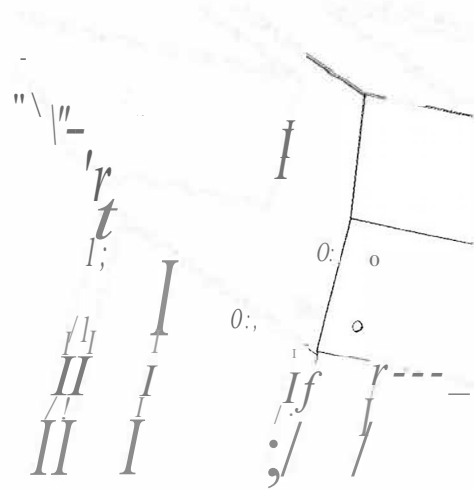

FIGURE 6
- 2- Using a 5/32" male hex driver, loosen, but do not remove, the four (4) leg mounting screws, from the top left-hand side of the cart chassis.
- 3- Carefully align the "keyholes" in the shelf, with and over the four (4) leg-mounting screws. Make sure the washers are not between the shelf and the cart chassis. Push the shelf down into position.
- 4- Re-tighten the four (4) leg-mounting screws. (SEE FIGURE 6)